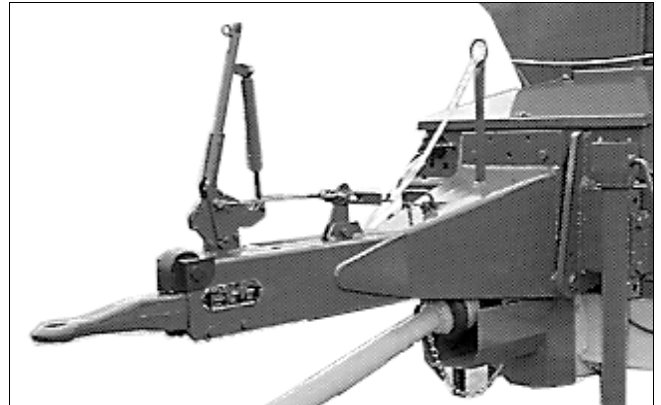

Fig. 5
- draw bar (Fig. 5) with over run brake and automatic recoil device,